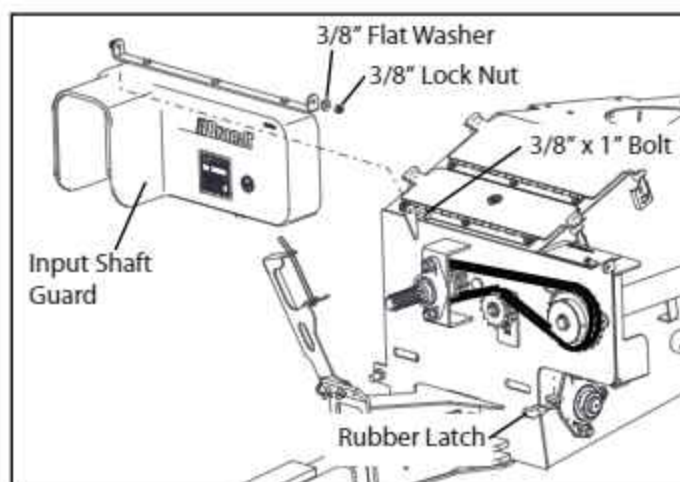

FIG. 3-61. Input Shaft Guard Assembly
27. Loosen the Idler sprocket nut and install the roller chain. Make sure the lower span of the chain goes over the idler as shown in Fig. 3-61. Adjust the position of the idler to tighten the chain and tighten the idler nut.
28. Install a Rubber latch where shown in Fig. 3-61.